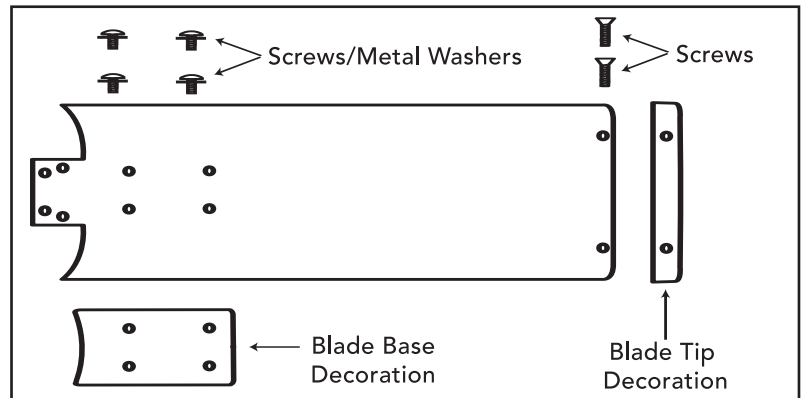

Fig. 7
1. Attach blade base decorations to each blade using 4 screws and metal washers provided (Fig. 7). Tighten snugly, but do not over-tighten.
2. Attach blade tip decorations to each blade using 2 screws provided (Fig. 7). Tighten until screw head is flush with back surface of the blade.